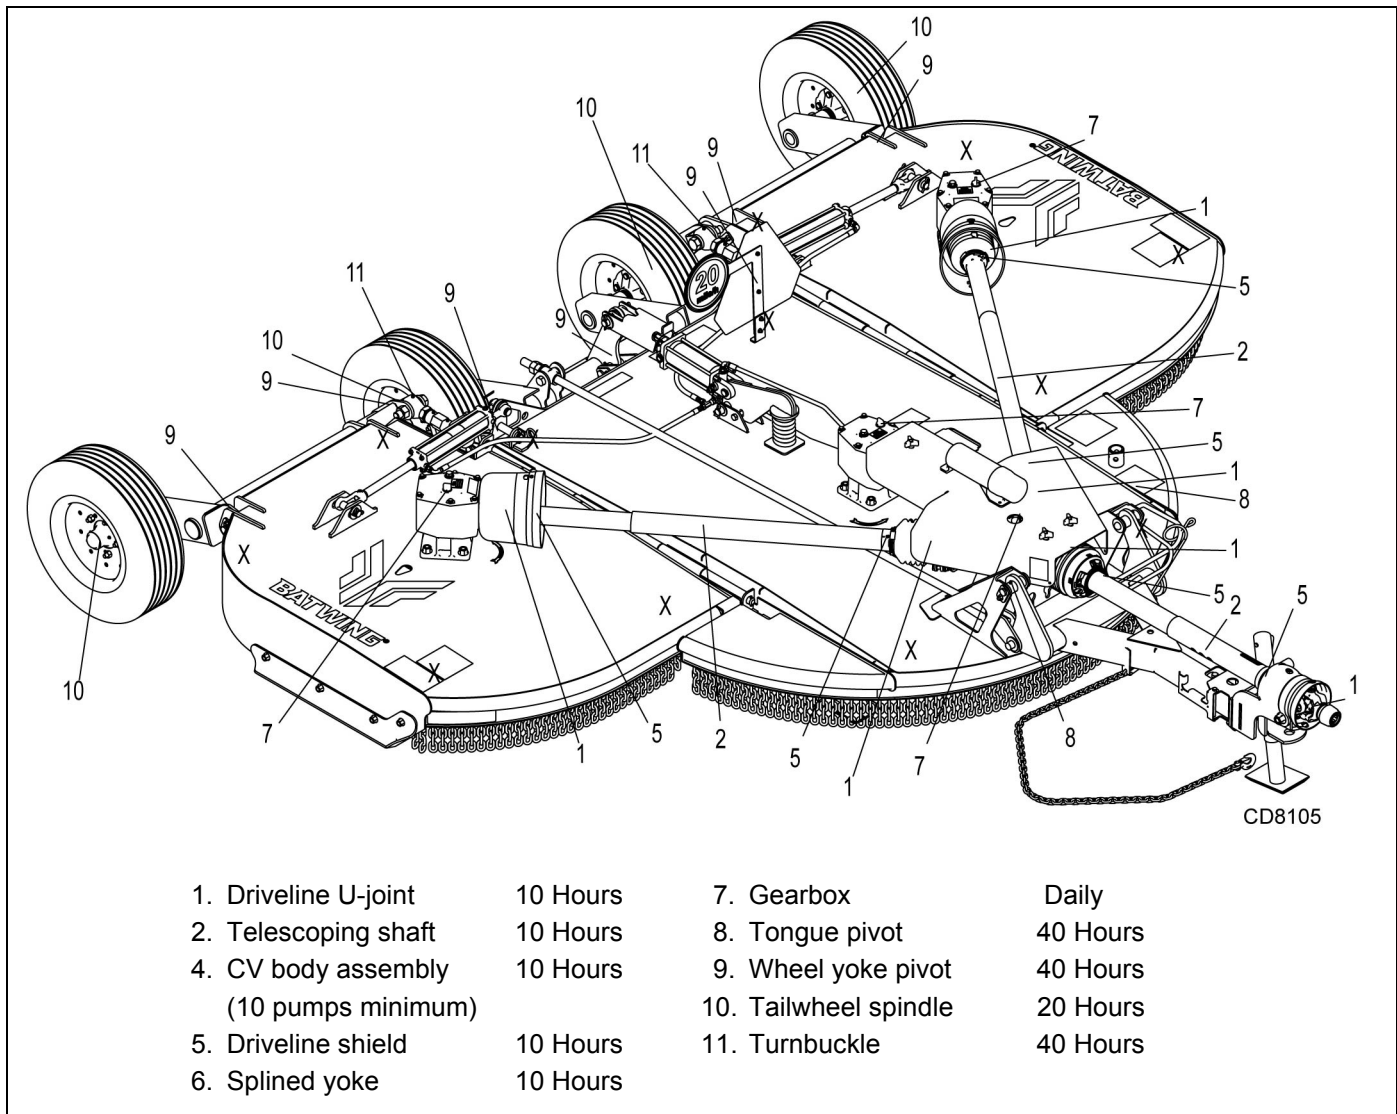

Figure 6. Jackstand Placement and Lubrication Points
1. Jackstands with a load rating of 1000 lbs. or more are the only approved blocking device for this cutter. Install jackstands (shown by Xs in Figure 6) under the cutter before working underneath unit.
See Figure 6 for lubrication points and frequency for lubrication based on normal operating conditions. Severe or unusual conditions may require more frequent lubrication.
2. Raise cutter and block securely (see Figure 6).
3. Align crossbar (24) with blade access hole in the cutter frame. Remove cap screw (37), blade pin lock clip (11), keyhole plate (10), and shims (7). Carefully drive blade pin (18) out of crossbar.